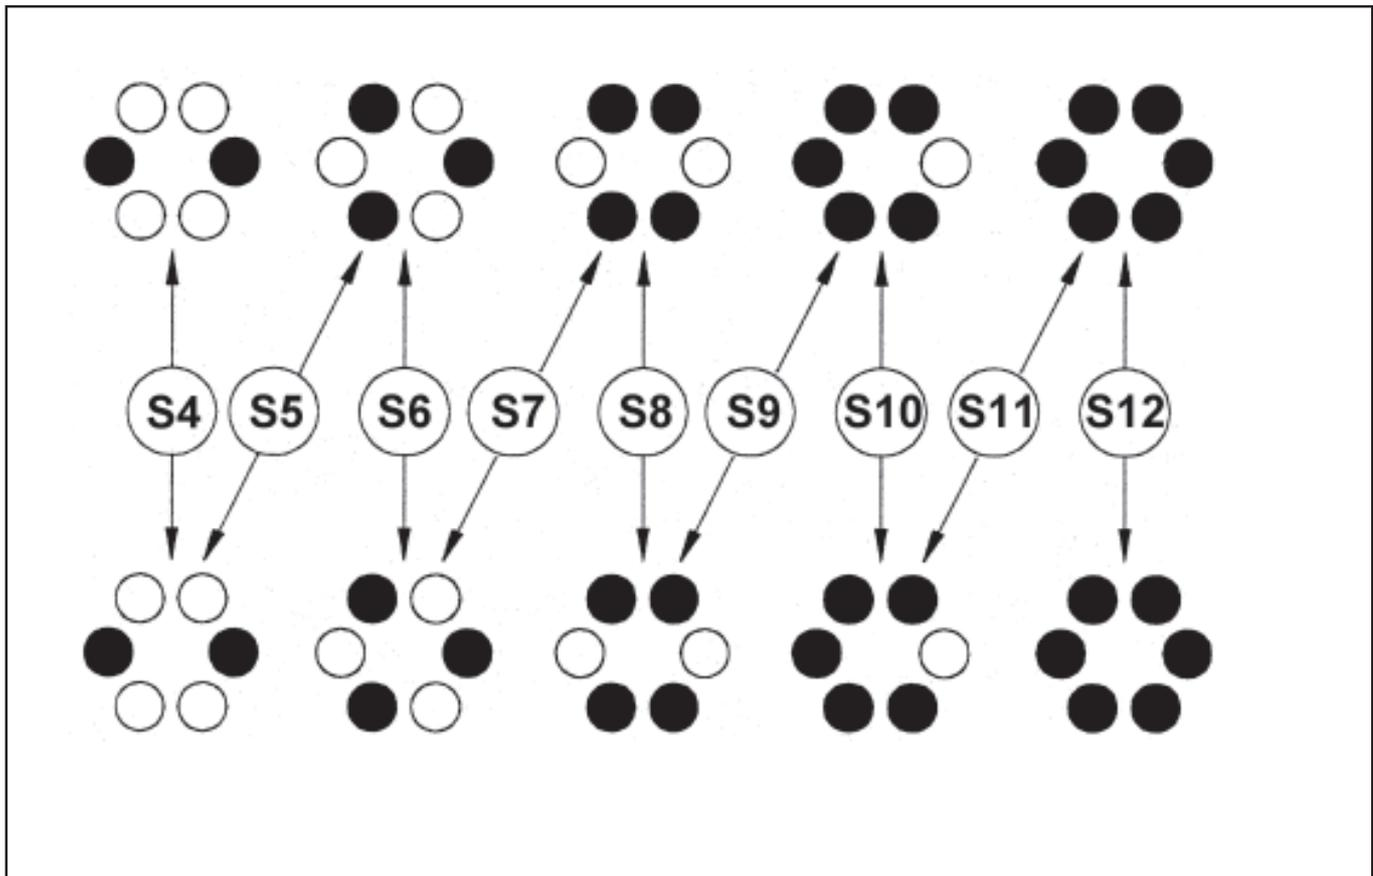
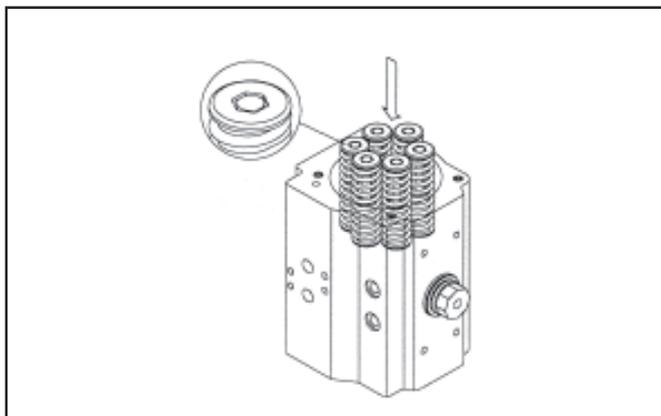
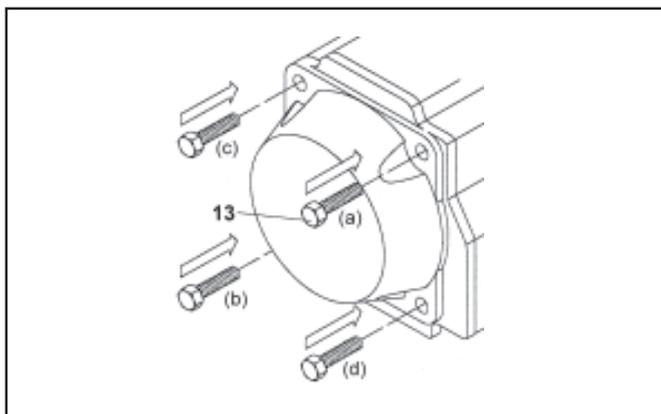

Fig. 26
Fig. 27
Fig. 28
(Figures 26, 27 and 28)
- For spring return actuator insert the proper quantity of spring cartridge according to the pattern shown in figure 26 (referring to the total number of springs). Insert spring cartridge (17) as shown in figure 27.
- Fit end cap O-ring seal (14) into the groove in the end cap, on both end caps.
- Fit end caps onto the body (29), verifying that the O-ring remains in the groove.
- Insert all the cap screws (13) and tighten each only partially. Complete tightening by following the sequence indicated in figure 28.